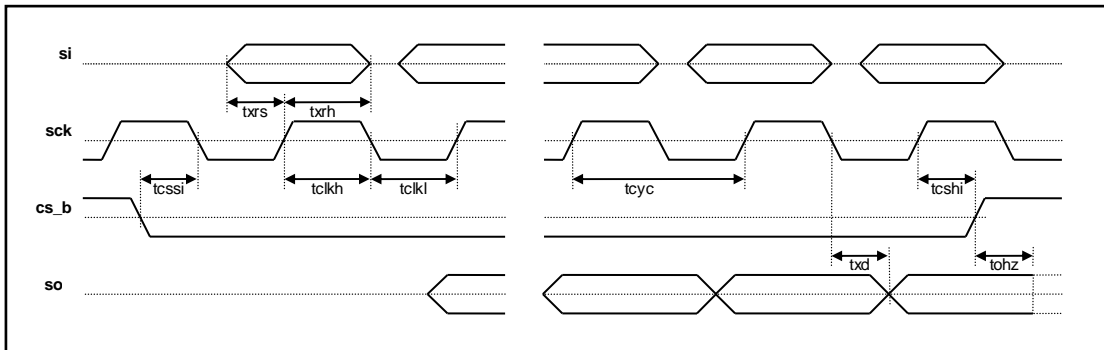

Figure 46. SPI (Serial Peripheral Interface) Timing - LSB First Mode
* For LSB first mode timing diagram, refer to Figure 46